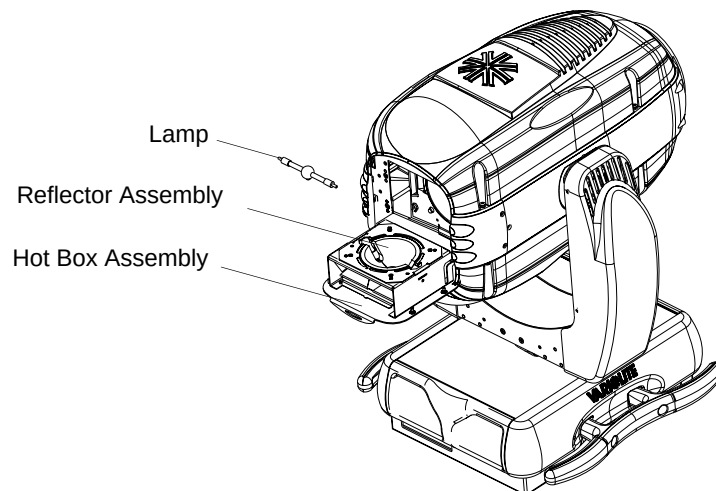

Figure A-7: Lamp Removal
- Step 6. As shown in Figure A-7, at rear of luminaire head (hot box assembly), loosen four 1/4-turn screws and slide lamp box back and out (it is hinged).